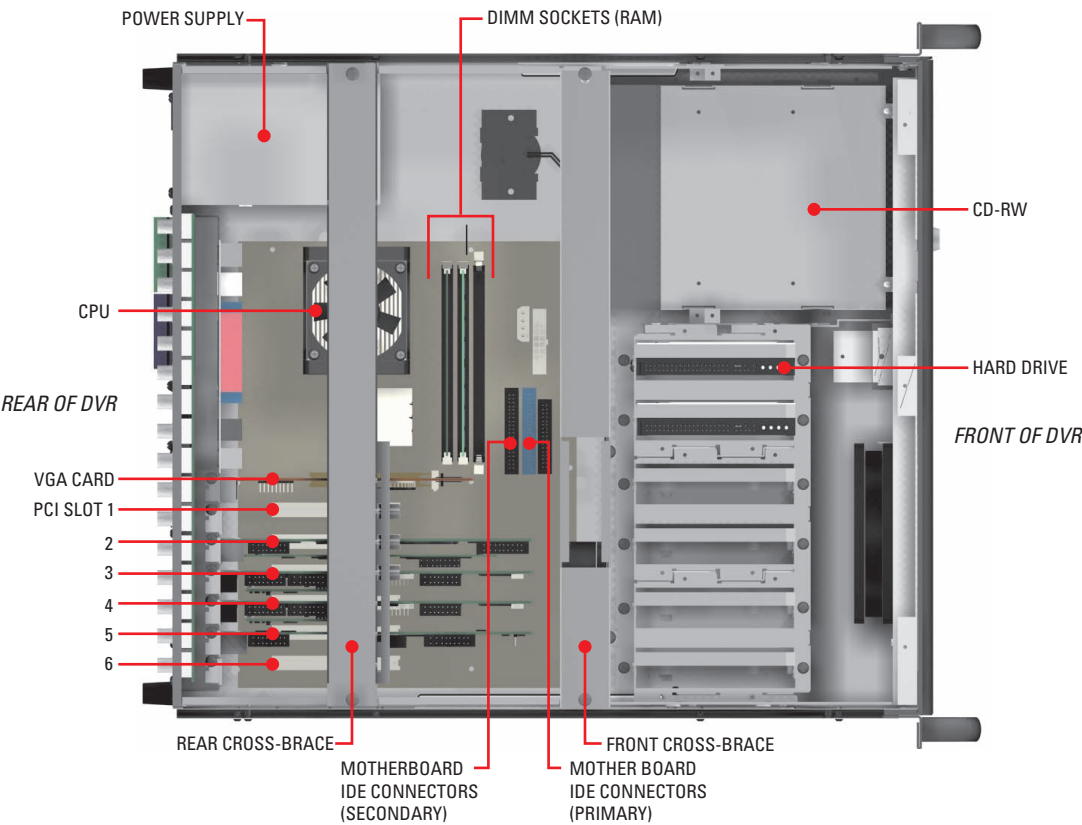

Figure 5. DX8000 Interior
- c. Carefully remove the chassis cover by sliding it back and up. Set aside the cover. Figure 5 illustrates the interior of the DX8000.
Figure 5 shows the location of your DX8000 Series DVR's major components. Certain cables and components have been omitted from the illustration in this manual for the purpose of clarity.